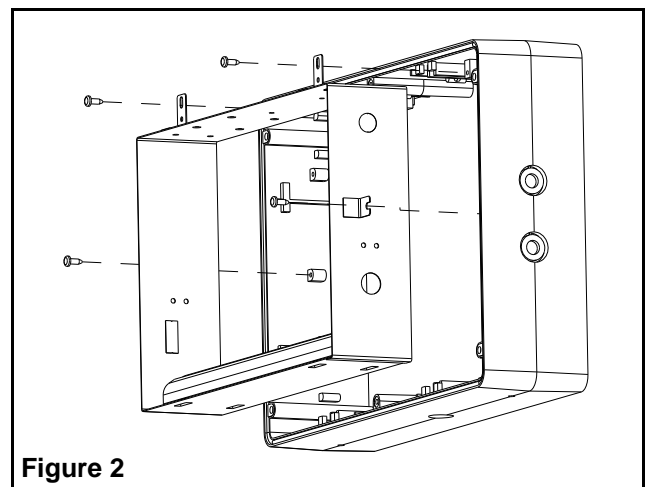

Figure 2
- g. In order to access the knockouts of the frame, remove the 4 screw(s) holding the frame insert to the frame and separate them (see Figure 2).